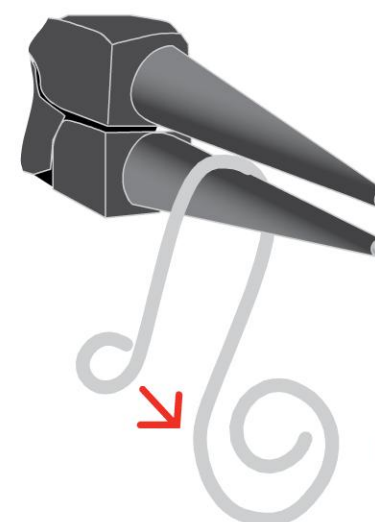

figure 10
- 7 Use the large end of round-nose pliers to grasp the hook's center. Push the small loop toward the large one, leaving a small space between the wires (Figure 10).